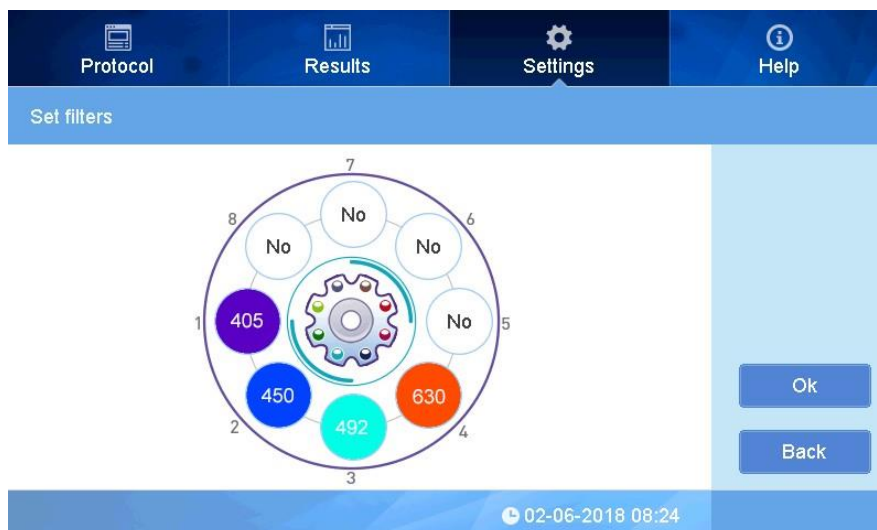

Fig. 47 Settings: Filters
1. Click Filter icon in the interface of setting, See Figure 47.